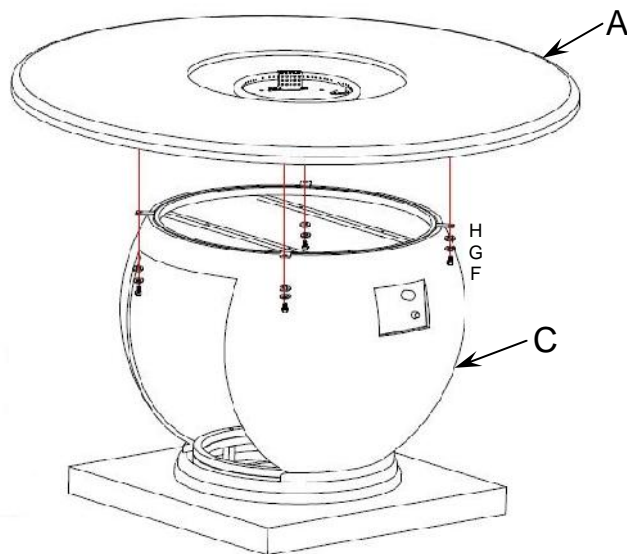

Figure 2
- Attach Table top (A) onto Base assembly (C) with Bolt (F), Spring washer (G) and Washer (H), screw the Bolts tightly by using the Wrench (J), see Figure 2.